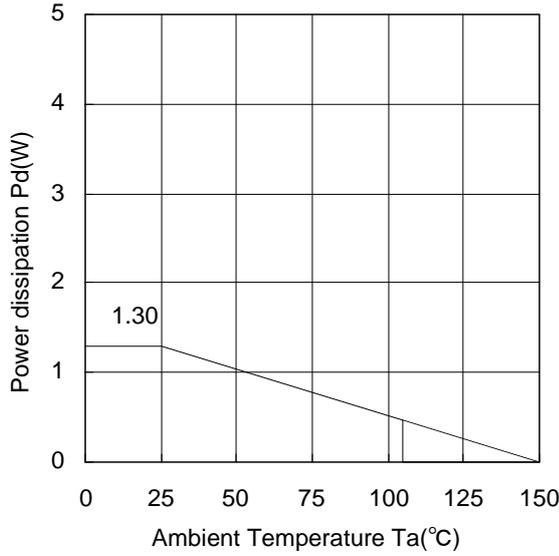
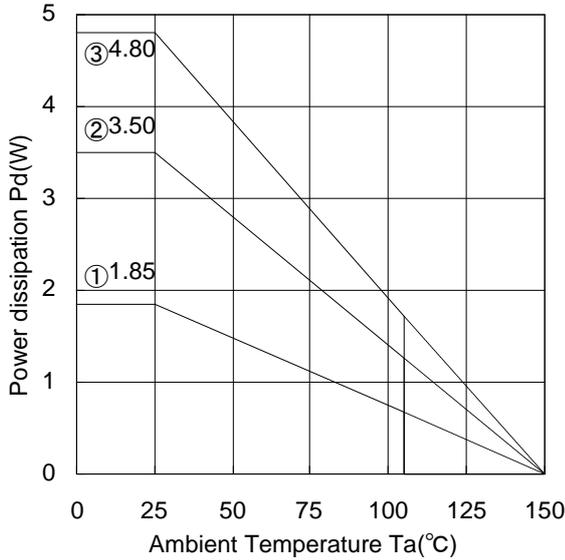
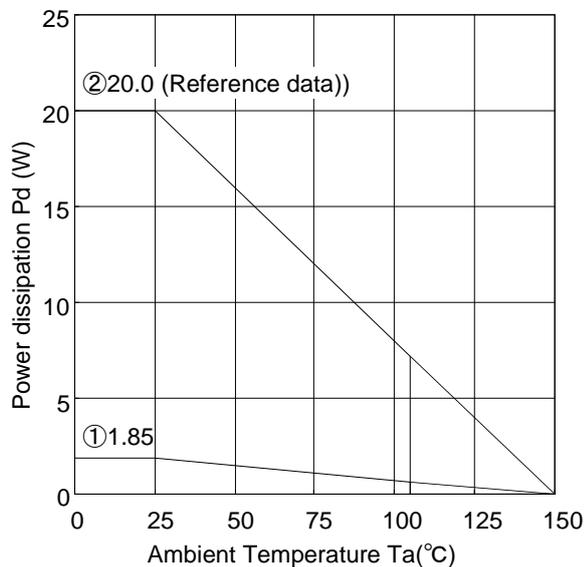

Figure 19.
Figure 20.
Figure 21.
When operating at temperature more than Ta=25°C, please refer to the power dissipation characteristic curve shown in Figure 19 to Figure 21.
Figure 19 to Figure 21 show the acceptable power dissipation characteristic curves of TO252-5 package and TO220CP-V5 package. Even when the ambient temperature (Ta) is at normal temperature (25°C), the chip junction temperature (Tj) may be quite high so please operate the IC at temperatures less than the acceptable power dissipation.
The calculation method for power consumption Pc(W) is as follows :(Figure 20③ and Figure 21)
$$I_O \leq \frac{2.496 - 10 \times I_b}{5} \quad \left[\begin{array}{l} \text{Figure 20③: } \theta_{ja}=26.0^\circ\text{C/W} \rightarrow -38.4\text{mW}/^\circ\text{C} \\ 25^\circ\text{C}=4.80\text{W} \rightarrow 85^\circ\text{C}=2.496\text{W} \end{array} \right]$$
$$I_O \leq \frac{10.4 - 25 \times I_b}{20} \quad \left[\begin{array}{l} \text{Figure 21 (Aluminium heat dissipation board) } \theta_{ja}=6.3^\circ\text{C/W} \rightarrow -160\text{mW}/^\circ\text{C} \\ 25^\circ\text{C}=20\text{W} \rightarrow 85^\circ\text{C}=10.4\text{W} \end{array} \right]$$